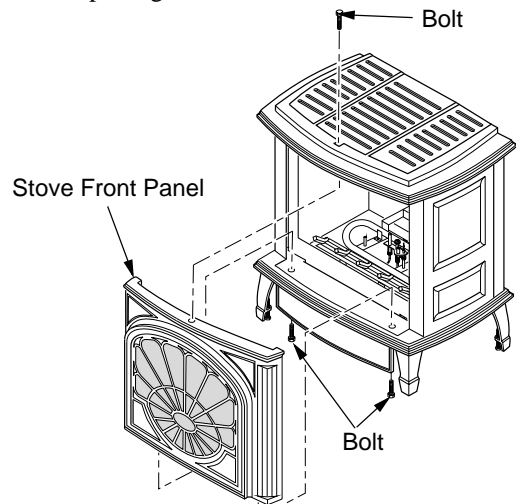

Figure 41 - Removing Front Panel from Stove
1. Remove 2 bolts from bottom of stove (if still installed) and one from the top of stove to remove front panel (see Figure 41).